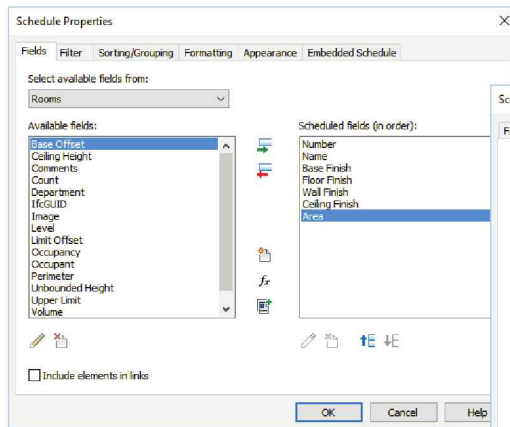

FIGURE 12-3.2
7. In the *Fields* tab of the *Schedule Properties* dialog, add the following fields to be scheduled (Figure 12-3.2):
It is easy to add custom parameters that track something about the element being scheduled (rooms in this case). Simply click the Add Parameter button seen in Figure 12-3.2.